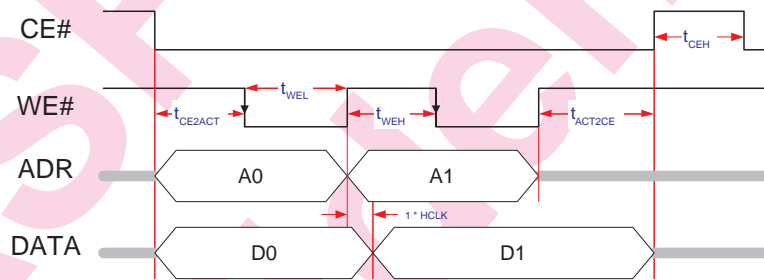

Figure 43: NOR Flash Write Timing
- Figure 43: NOR type flash normal write timing